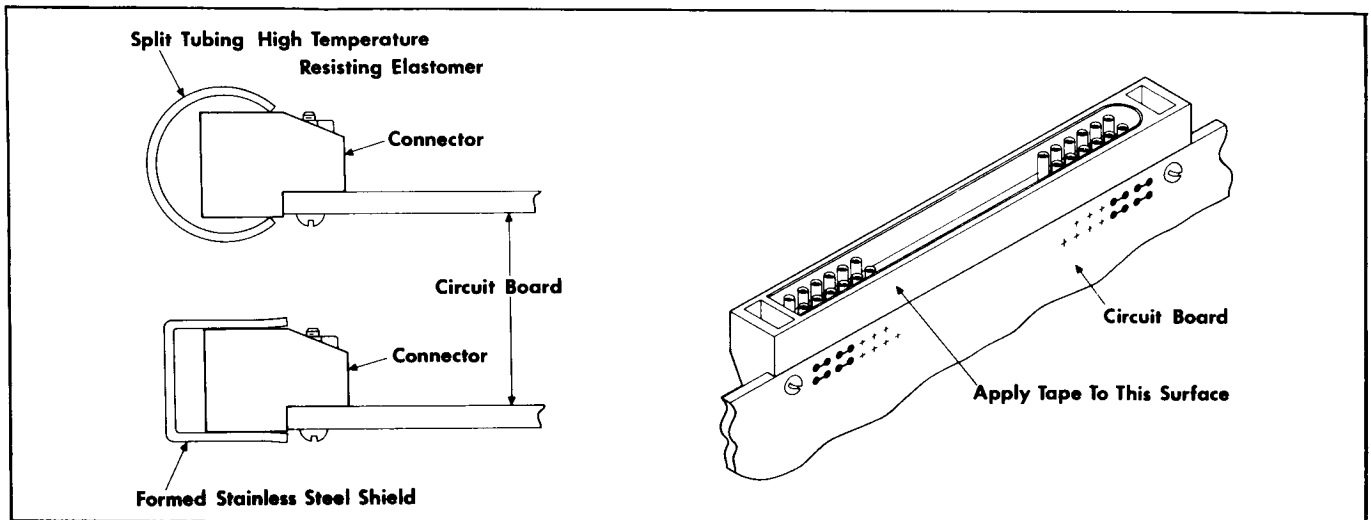

Figure 6. Typical masking applications for soldering DB connectors
- For cosmetic purposes, the board side of the DB connector can be masked prior to wave soldering to protect it from heat exposure and solder wash. Acceptable masking may be accomplished with split tubing, stainless steel, or Mystik Tape #7010 or #7367. (Ref. figure 6)